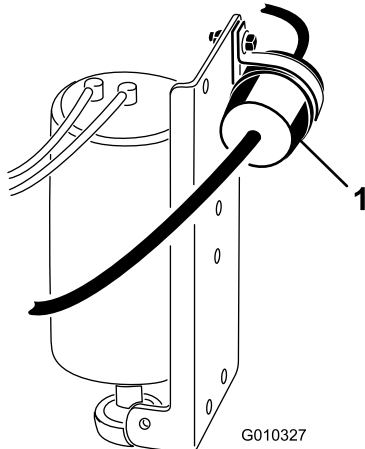

Figure 44
2. Place a clean container under the fuel filter (Figure 44).